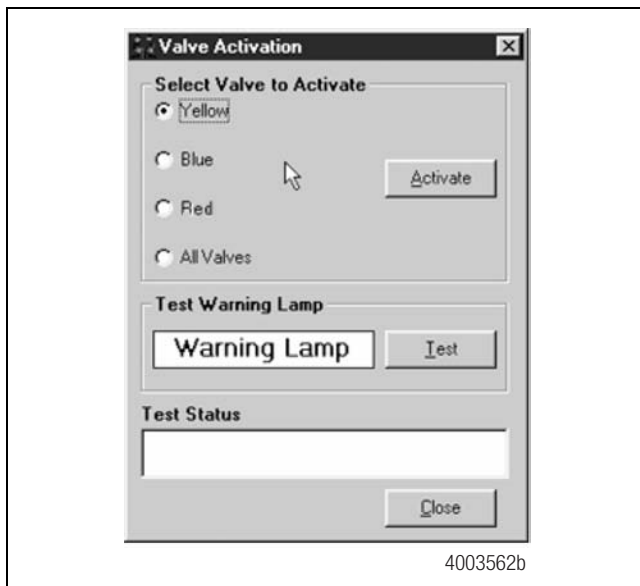

Figure 22
4. At the **Trailer Main Screen**, click on **Component Test**, then select **Valves/Lamp** to display the **Valve Activation Screen**. The **Yellow** valve indicator will be highlighted. Figure 22.
9. Click on the **Test** button to activate the ABS indicator lamp — this is the lamp that is mounted on the side of the trailer. The lamp will flash eight times, indicating lamp installation is OK. The **Test Status** box at the bottom of the menu will display the status of this test. Figure 22.